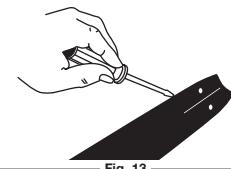

Fig. 13
- Using a screwdriver, putty knife, wire brush or other similar instrument, clear residue from the rails on the guide bar (Fig. 13).